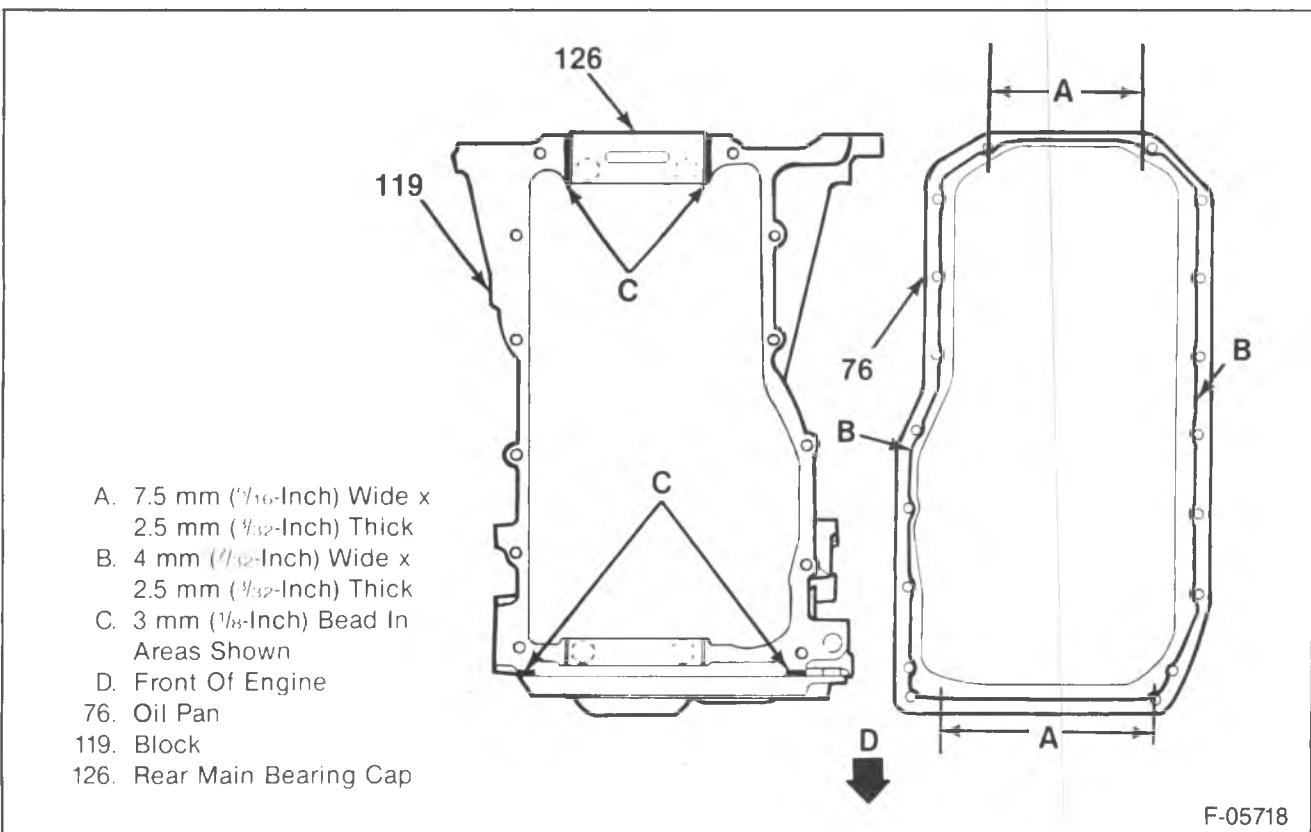

Figure 51—Applying RTV to the Oil Pan and Block
- Apply RTV sealant to the oil pan flange and block. Refer to figure 51.
- 1. Oil pan (76).
- 2. Bolts (75).